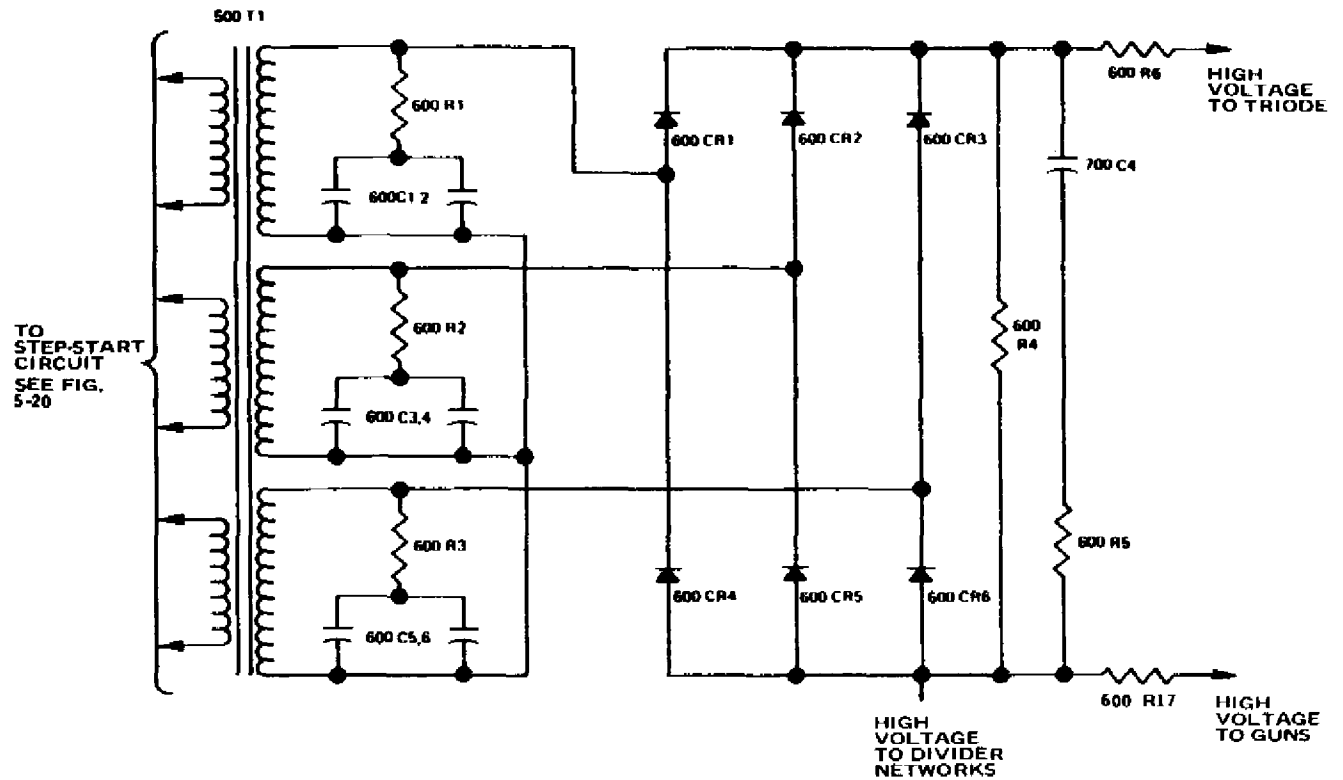

Figure 5-2. CV-8 A and B high voltage power supply (drawings 506-0445 sheet 1)
5.2.1 High Voltage Power Supply (Figure 5-2)